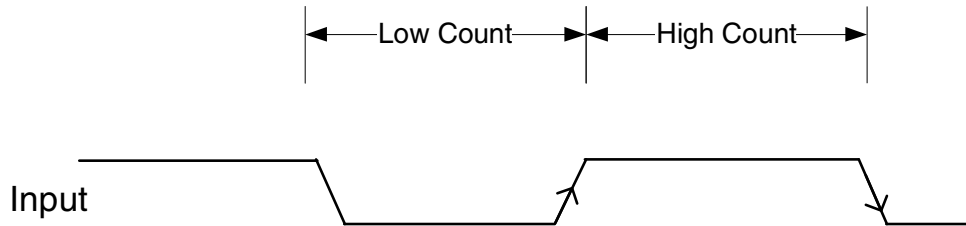

Figure 22-4. Pulse-Width Measurement Mode
- On the falling edge of the source clock, the free-running count is copied to the HIGH_FIXED_COUNT bit field (as shown in Figure 22-4).